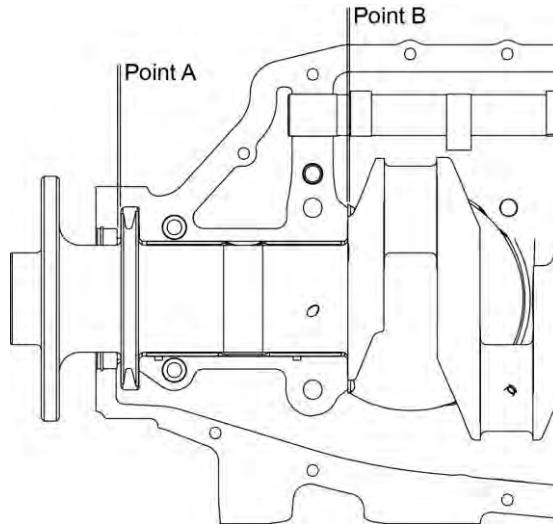

Figure 69
- (1) With the crankshaft installed in the crankcase, move the crankshaft as far forward as possible.
- (2) Use a feeler gage to measure the slinger clearance at Point A (Figure 69). Refer to the limits in Table 8. If the slinger clearance is not within the limits in Table 8, the front face of the slinger can be reground to restore the slinger clearance to within allowable limits.
- (3) Move the crankshaft to the rear as far as possible.
- (4) Use a feeler gage to measure the end play clearance with the crankcase thrust at Point B in Figure 69. Refer to the limits in Table 9. If the endplay clearance is not within the limits in Table 9, examine the crankcase and/or crankshaft for wear or damage. Replace a worn or damaged component.
(Figure 69)